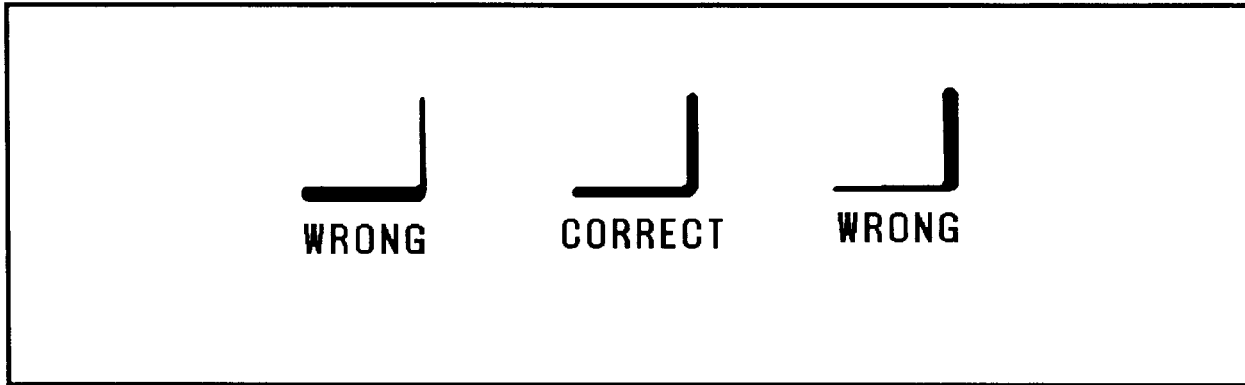

Figure 3-10. Astigmatism Adjustment Signatures.
12. Adjust 1.A2.R13 (Astigmatism) so that the width of the signature is the same from one end to the other. Refer to Figure 3-10.